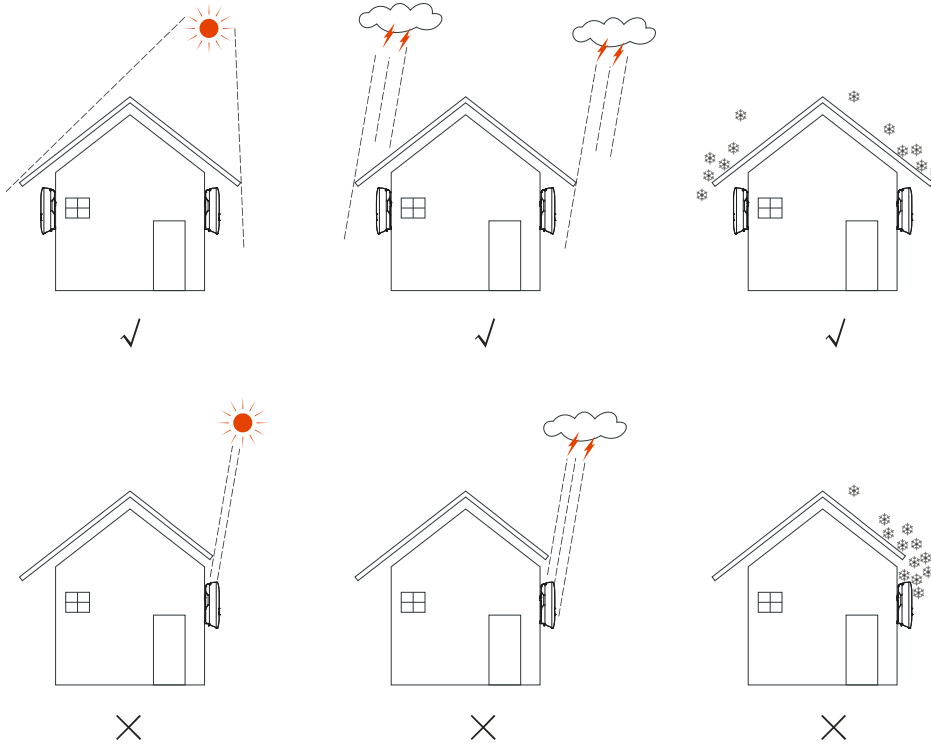

Figure3-2 Recommended installation site
- To ensure long service life and stable operation, avoid direct sunshine, rain or snow on the inverter. It is recommended to install the inverter in the place where has cover, as shown in Figure3-2.